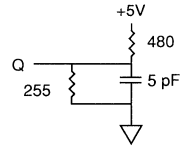

Fig. 2 OUTPUT LOAD EQUIVALENT
- ^tHZCE and ^tHZWE are specified with C_L = 5pF as in Fig. 2. Transition is measured ± 500mV from steady state voltage.